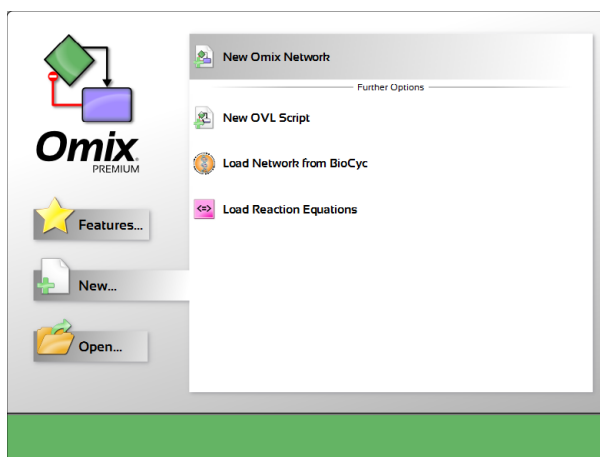

Figure 109 Create a new document in Omix Premium
- a Click **New** in the *Document Area* (Figure 109).